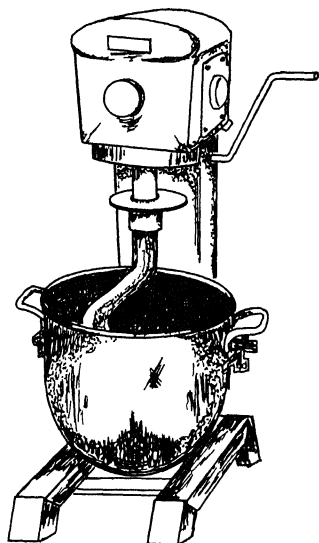
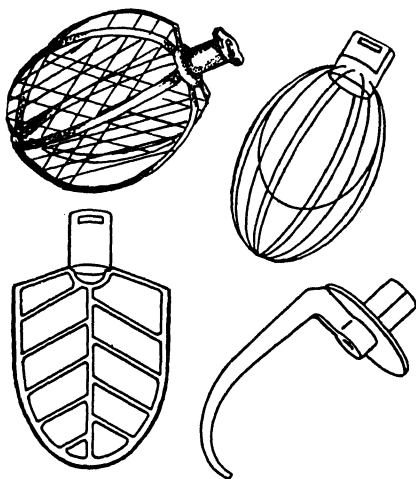

Figure 6-9.—Electric mixer.
Figure 6-10.—Electric mixer attachments.
**SIZES AND ATTACHMENTS.**—Food-mixing machines (fig. 6-9) are furnished in 20-, 60-, 80-, 110-, and 140-quart sizes with the necessary attachments, paddles, and beaters (fig. 6-10). The wire beater is used for eggs, cream, and lightweight mixing; the flat beater for cake batters and mediumweight mixing; the dough hook for